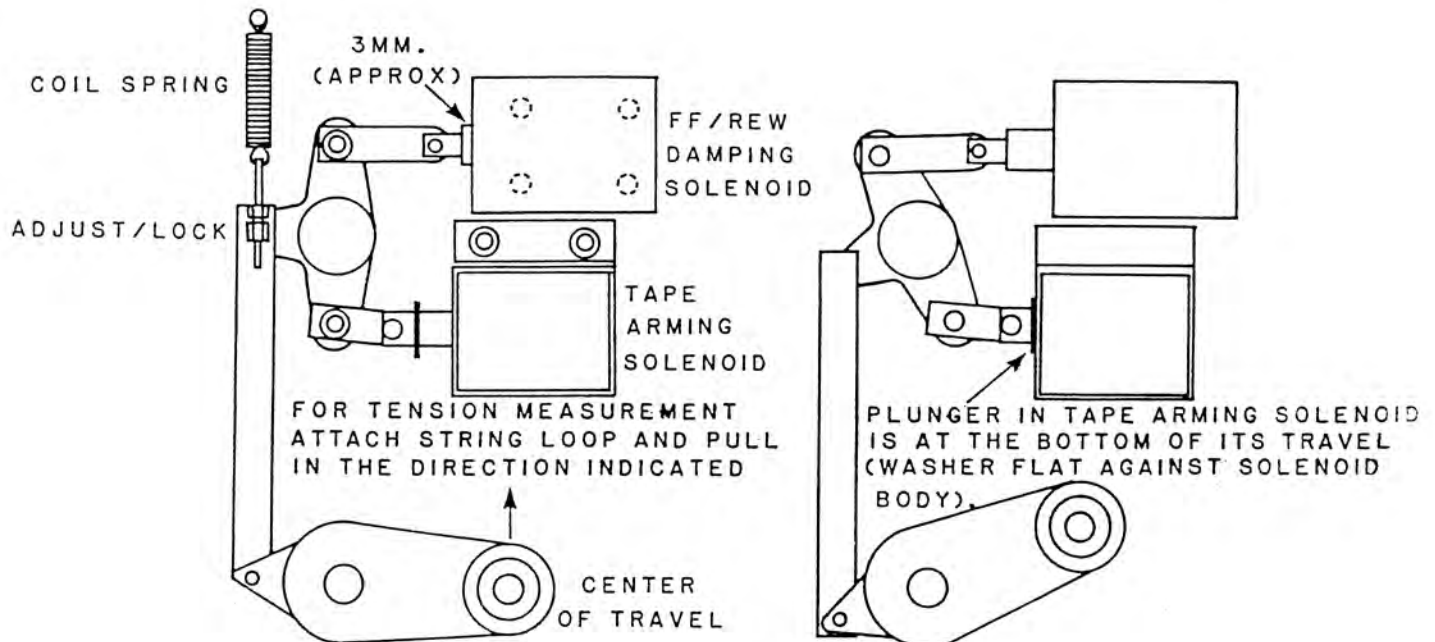

Figure 4-5 Solenoid Adjustments
Refer to Figure 4-5
3. Inspect the plunger in the damping solenoid. The plunger will protrude from the solenoid body toward the linkage. About 3 mm of the plunger should be visible between the body and the point where the plunger diameter is reduced for mating with the linkage (refer to Figure 4-5). If necessary loosen the solenoid mounting screws and adjust its position. Repeat the measurement several times and average the results to minimize the effects of linkage play.
3. Pull the scale toward the rear of the deck plate until the swing arm is in the middle position (as shown in Figure 4-5). The mark on the swing arm, and the mark on the deck plate will be in line, and parallel to the front of the machine. The spring scale should indicate between 400 and 450 grams (300 - 350 grams for 1" tape); if not go to Step 4.